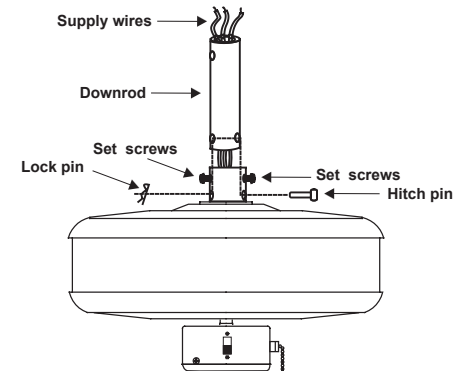

Figure 7
Step 4. Loosen the two set screws and remove the hitch pin and lock pin from the top coupling of the motor assembly. (Fig. 7)
Step 5. Carefully feed the fan wires up through the downrod. Thread the downrod into the coupling until the Hitch pin holes are aligned. Next, replace the lock clip and hitch pin then tighten the set screws. (Fig. 7)